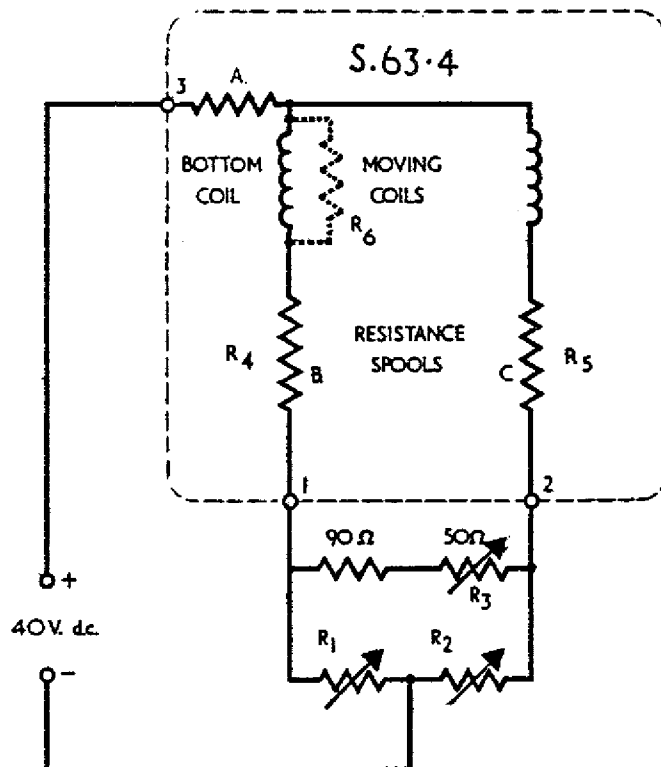

Fig. 7 Test circuit diagram Position indicator
C. Position indicators (Refer to Fig.7)
- (1) Connect the indicator in the circuit shown in Fig.7. The values of series spools (B and C) will be found in the data section of the addendum for the variant being tested. Set R4 and R5 to these values, R4 and R5 when adjusted should always be of equal value. If this is not possible a shunt spool will have to be used as described in sub para.(3).
- (2) Set R3 to 25 ohms, R1 and R2 each to 500 ohms, apply 40 volts d.c. to the circuit input.
- (3) If the pointer deflects to the right of mid-scale (towards full scale position when indicator is viewed from the front) connect a decade resistance R6 across the top moving coil, between the top ligament and the lower of the two bottom ligaments. If the deflection is to the left of mid-scale, connect R6 across the bottom moving coil, between the top ligament and the upper bottom ligament.
- (4) Set R1 to 1000 ohms and R2 to zero, adjust R3 to bring the pointer over the cardinal indicating full scale position.
Connect the indicator as shown in Fig. 7. Check readings against appropriate settings of the decade resistance boxes according to the calibration table which will be found in the appropriate addendum at the rear of this manual. Obtain correct end-scale alignment of pointer and appropriate cardinals as outlined in C above before checking calibration. Recalibrate indicator, if necessary, to obtain correct indication for the resistance values in table.